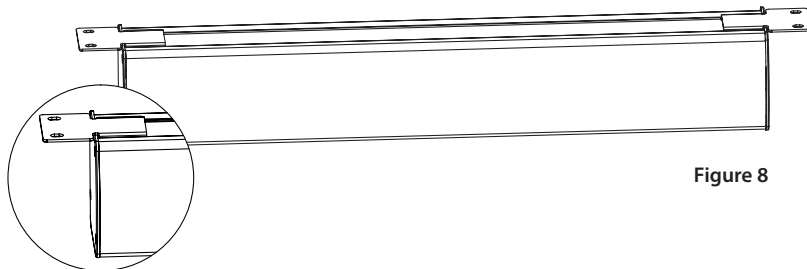

Figure 8
1. Slide the mounting plates on the top of the screen housing (a) outward. (see Fig. 8)